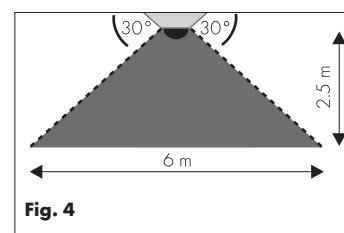

Fig. 4
- See Fig. 4 for the sensor range.
The height specified in Fig. 4 is a reference value. For other and specifically greater heights, it may be necessary to test the sensitivity of the sensors on site as the sensitivity of the motion sensor decreases the higher up it is mounted.